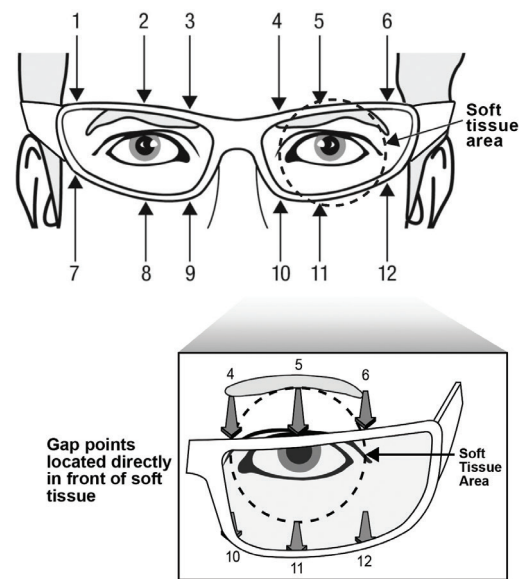

Figure 4: Gap check locations
- A. Review the check points in Figure 4. Pay close attention to the location of positions 1 and 6 on the top of the eyewear and 7 and 12 on the bottom of the eyewear.
- C. Gently probe the gap clearance around the perimeter of the eyewear, checking the top and the bottom of the frame as well as the nose bridge area in the locations marked in Figure 4. For each location, mark only **one** gap measurement value on the Fit Evaluation Form by checking the appropriate box. The gap measurement is the sphere size that best matches the space between the face and the eyewear at the check points. We recommend to start with the 12 mm sphere.